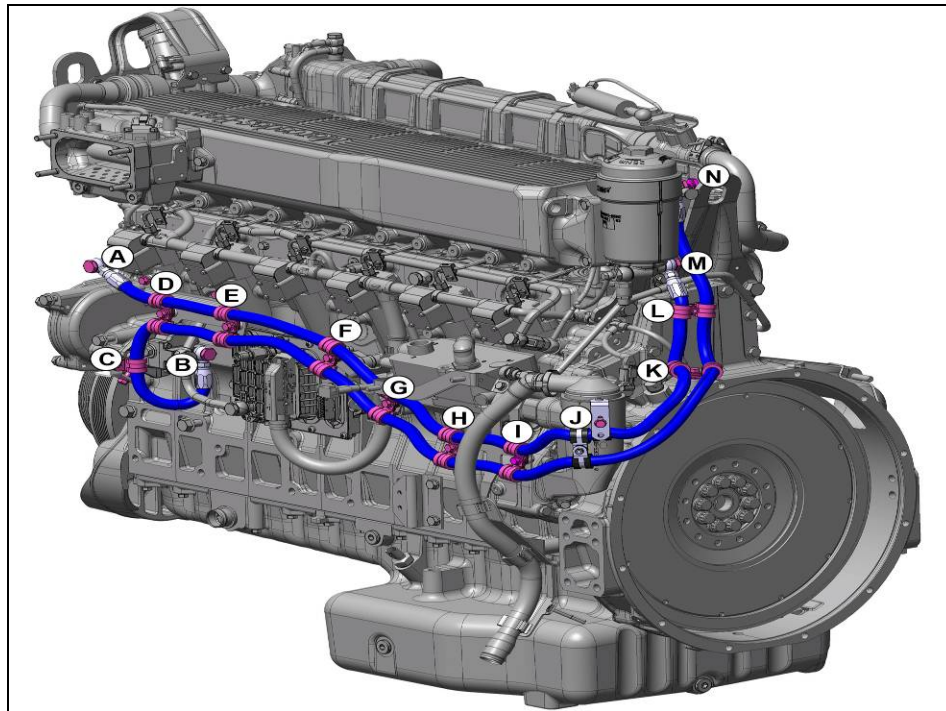

Figure 9 Fuel Line Mounting Points
59. Figure 9 is a diagram showing the low pressure fuel lines routing. The positions are labeled by letters and will correspond with the directions of how to install the lines onto the engine. Follow the letters in the order they are listed.